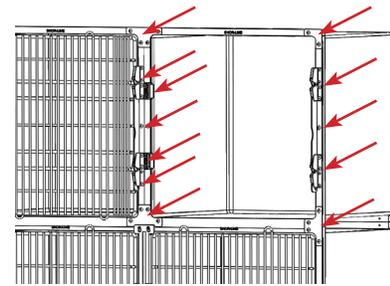

FIGURE 2.10 - Loosen Trim
STEP 1: Loosen trim plates, hinges, latch bar and trim strips. Do NOT remove screws or hardware. See FIGURE 2.10